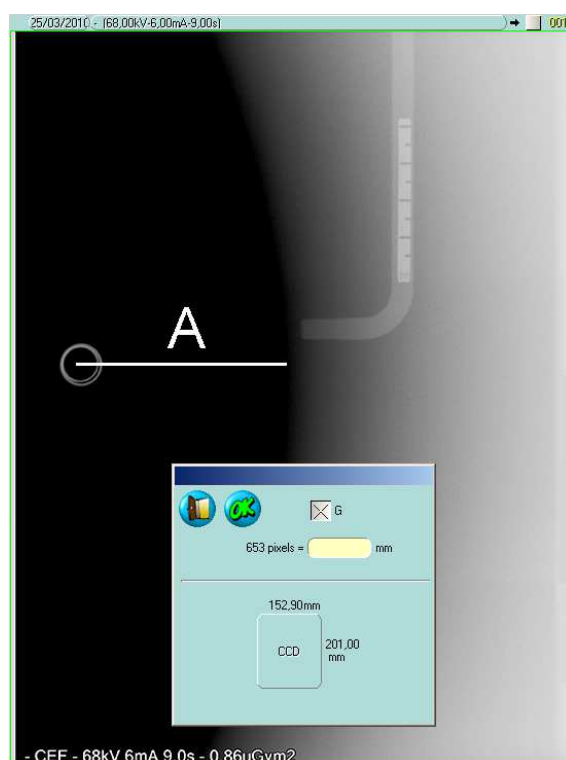

Figure 7-12
- On the image taken with QuickVision, using the instruction in paragraph 7.2.1, measure the distance "A" (Figure 7-12) between the Soft Tissue Filter (STF) edge and the center of the rings; perform the measure in "mm".